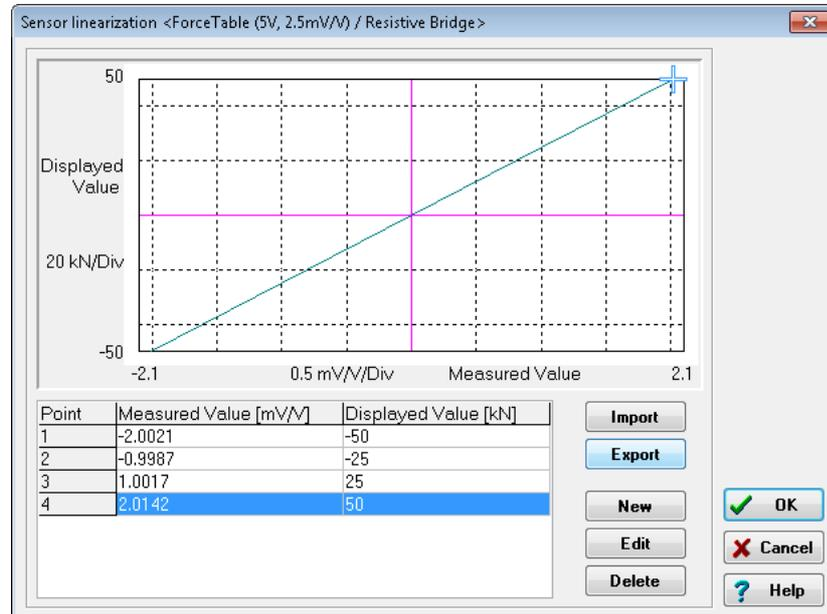

Fig. 5-7 Entering the scaling table.
7. Edit the existing values or generate further rows with **New** and specify the values for your sensor (Fig. 5-7). The rows sorted based on the entered values.